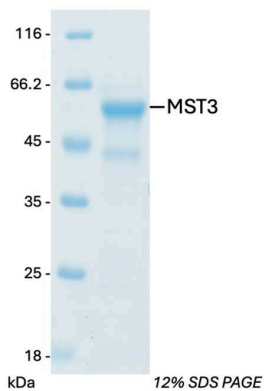

Figure 1: Coomassie stained 12% SDS PAGE gel showing purified MST3 kinase
- 30.1 At this stage MST3 can be used for phosphorylation reactions without further purification (Figure 1). If desired it can be concentrated in an Amicon® Ultra centrifugal filter.